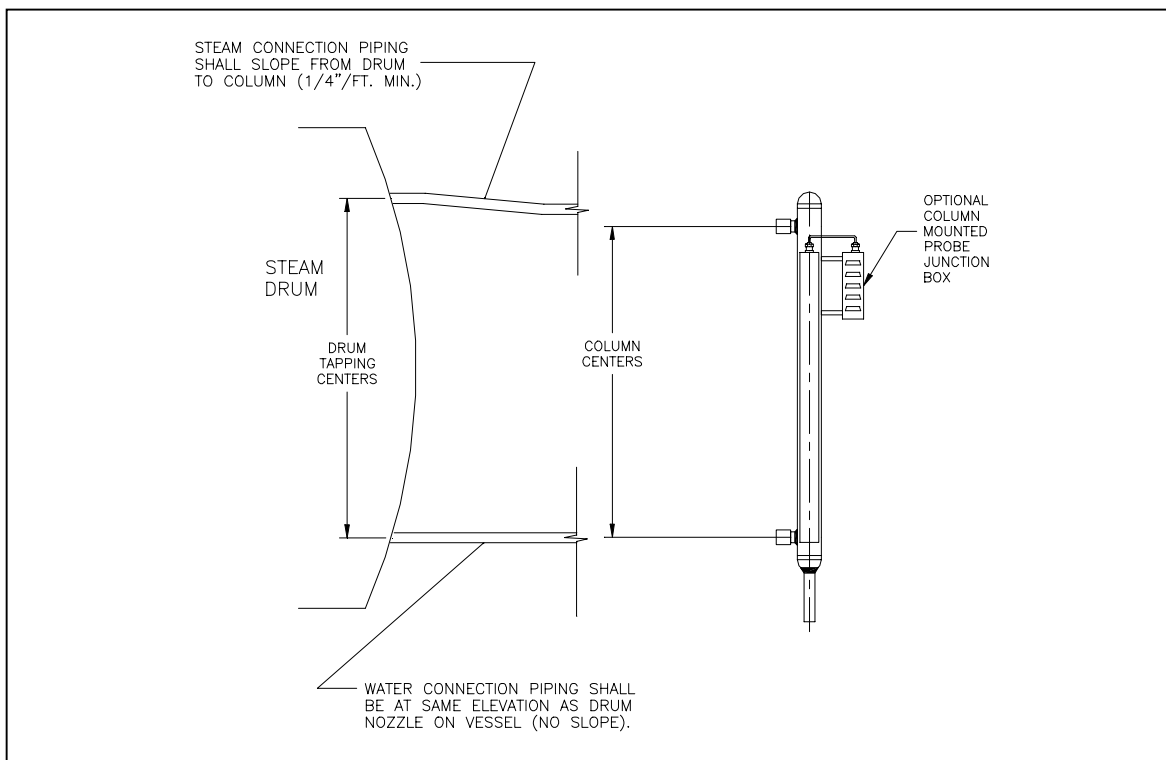

Figure 1 – Water Column Installation
2.2 Water Column (see figure 1)